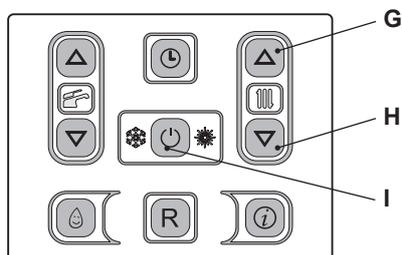
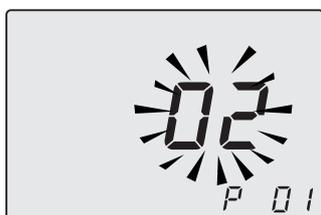
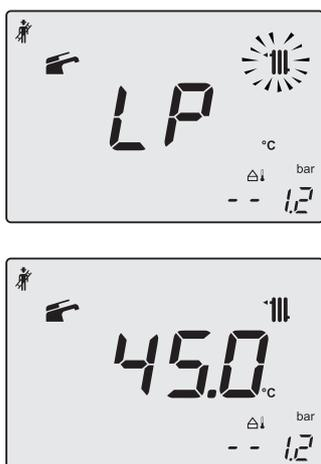
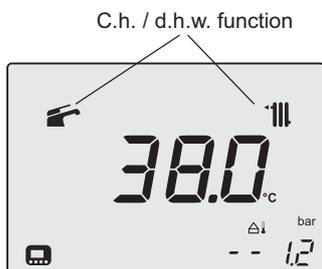

Figure 11.5
Figure 11.6
Figure 11.7
Figure 11.10
- 15 To enter in the parameters setting mode press contemporary the 3 keys (G - H - I Figure 11.5) for 10 second until the display shows Figure 11.6.
- 16 Press keys G and H (Figure 11.5) at the same time until the display shows the letters **LP** that alternate with the heating water temperature value (e.g. 45), indicating the activation of the "chimney sweep function" at minimum output (Figure 11.7).
- 24 Press keys G - H - I (Figure 11.5) at the same time again to exit the "chimney sweep mode" and return to the previously set boiler status (Figure 11.10)